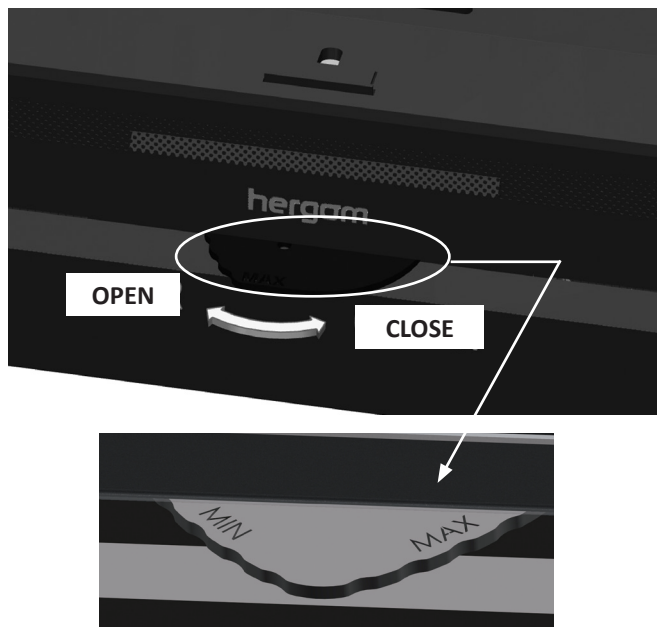

FIG. 2
- Move the regulation valve from right to left to provide a greater inflow of air to favour combustion (FIG. 2).